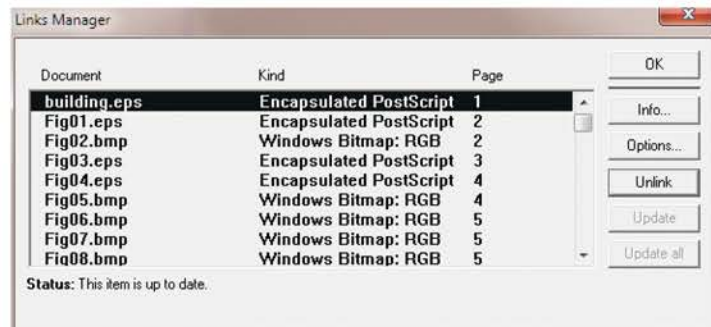

Fig. 14.5 The Links Manager dialog of PageMaker
8. Go back into **PageMaker** and *click* **Links Manager . . .** in the drop-down menu. The **Links Manager** dialog appears (Fig. 14.5). Against the name of the **building.eps** file name is a dash